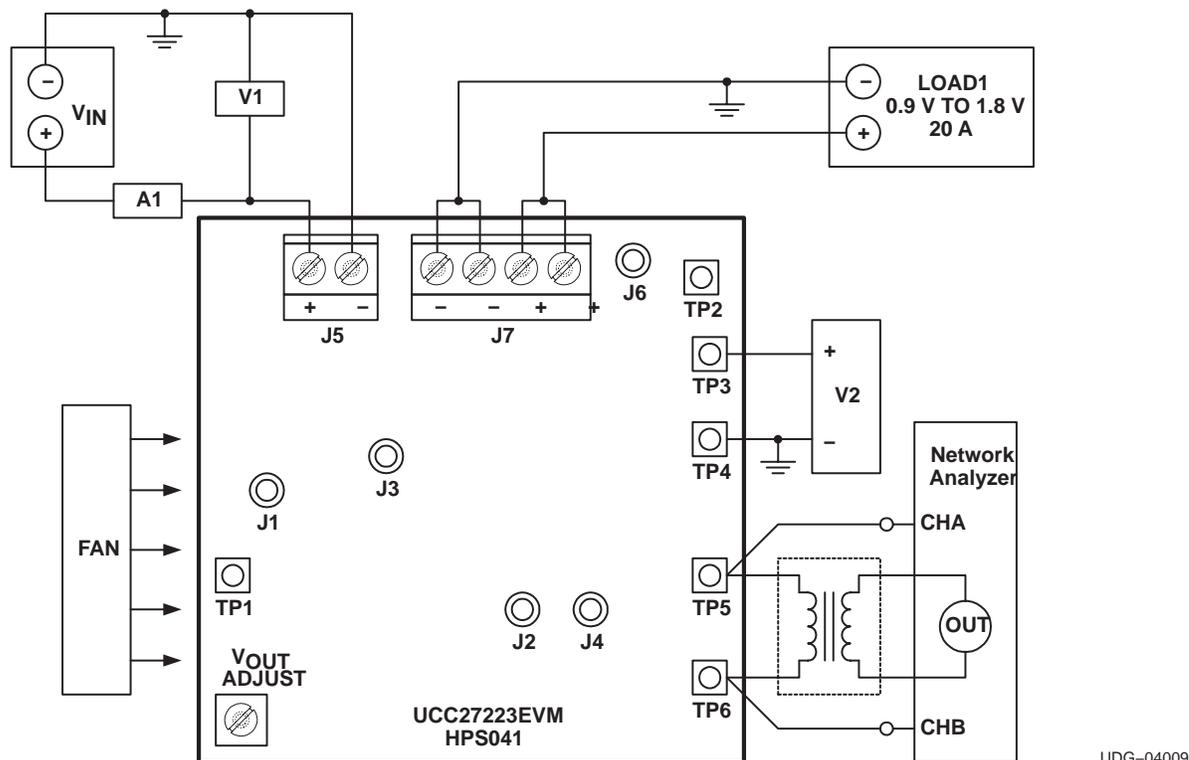

Figure 3. Recommended EVM Test Configuration
Figure 3 shows is the basic test set up recommended to evaluate the UCC27223EVM. Please note that although the return for J5 is the same as the J7 return, the  $V_{IN}$  and LOAD1 connections should remain separate as shown below.
The input voltage should be a variable DC source capable of supplying between 0 Vdc and 6 Vdc at no less than 10 Adc, and connected to J5 as shown in Figure 3. For fault protection to the EVM, good common practice is to limit the source current to no more than  $9 A_{DC}$  for a 5-V input. A dc ammeter, A1 should also be inserted between  $V_{IN}$  and J5 as shown in Figure 2.
A network analyzer can be connected directly to TP5 and TP6 as shown in Figure 3. The UCC27223EVM provides a 51.1- $\Omega$  resistor (R14) between the output and the voltage feedback to allow easy non-invasive measurement of the control to output loop response.
2. Prior to connecting the DC input source, VIN, it is advisable to limit the source current from VIN to a 9-A maximum. Connect the ammeter A1 (0-A to 10-A range) between VIN and J5 as shown in Figure 3. Make sure VIN is initially set to 0 V.
3. Connect LOAD1 to J7 as shown in Figure 3. Set LOAD1 to constant current mode to sink 0 ADC before VIN is applied.
4. Connect the voltmeter, V2 to TP3 and TP4 as shown in Figure 3.
J4 shown in Figure 3 allows convenient probing of the switch-node voltage, shown in Figure 6. The ringing shown on the switch-node voltage waveform is a result of component package inductance and parasitic inductance between the UCC27223 driver device and the high-speed switching MOSFETs, and is not a characteristic of Predictive Gate Drive™ technology. Predictive Gate Drive™ technology minimizes body-diode conduction as highlighted at points A and B of Figure 6. Figure 7 and Figure 8 show close up views of points A and B shown in Figure 6. Figure 8 shows some inductive ringing below the ground reference; however, it is not clamped by the body-diode of Q3.